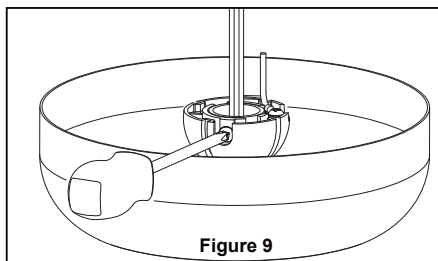

Figure 9
9. Reinstall the hanger ball on the downrod as follows. Route the black, white and blue wires through the hanger ball. Position the pin through the two holes in the downrod and align the hanger ball so the pin is captured in the groove in the top of the hanger ball. Pull the hanger ball up tight against the pin. Securely tighten the set screw in the hanger ball. A loose set screw could create fan wobble. (Figure 9)